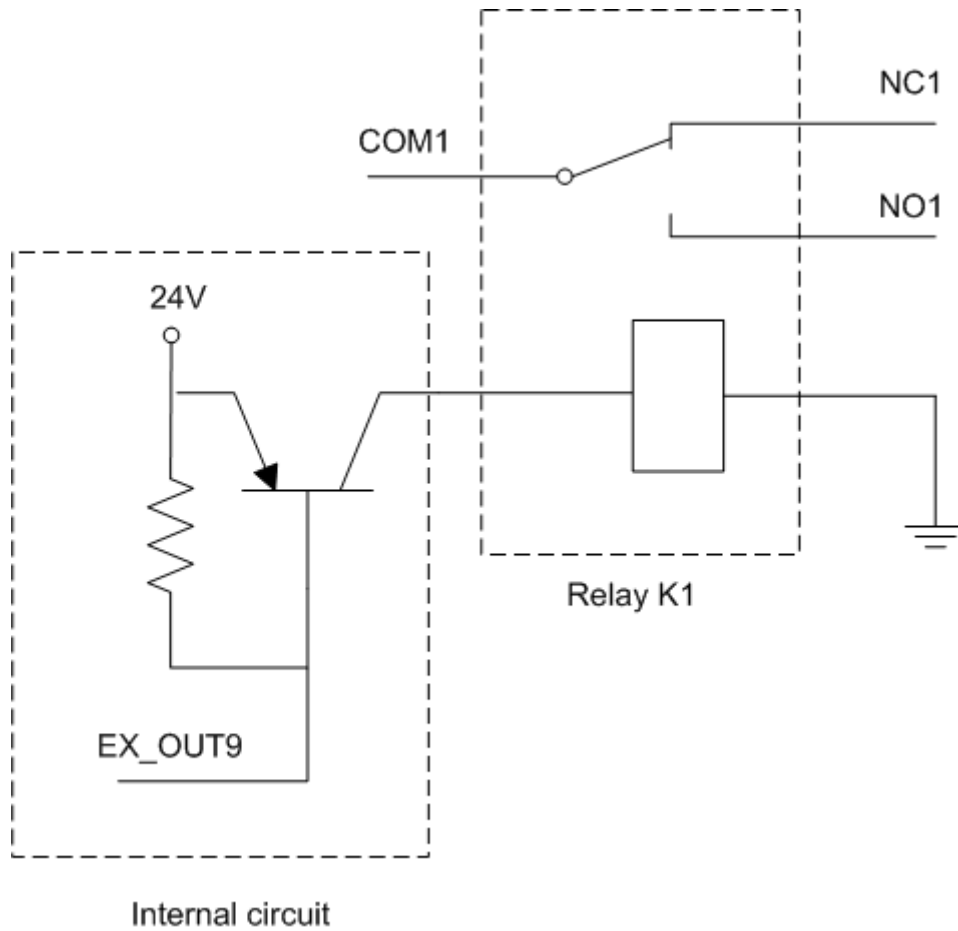

Figure 4.5 Circuit diagram
- All input and output interfaces of the Dobot M1 only can be used for signal control and cannot be regarded as a power supply. You can use relays on the external expansion board for power supply. Take the relay K1 as an example, the circuit diagram is shown in Figure 4.5.